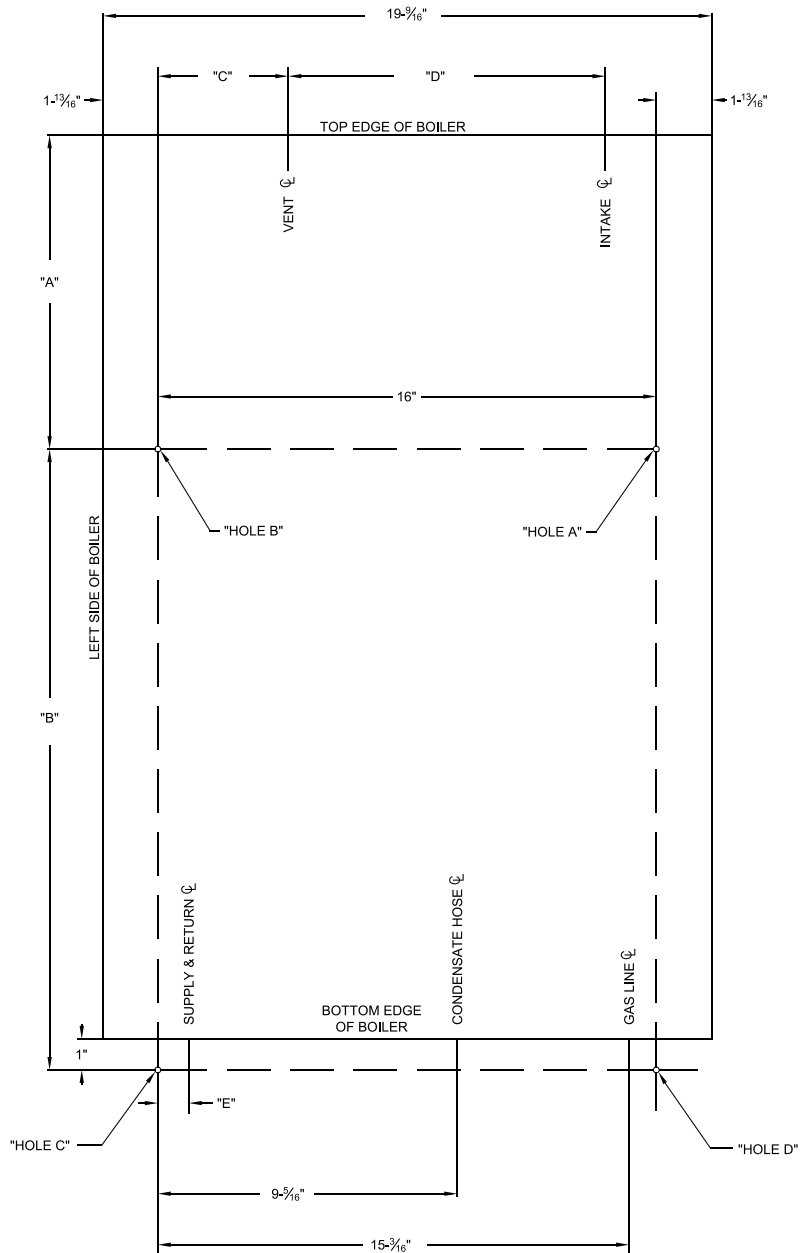

Figure 5.1 Wall Layout / Mounting Hole Location
5. Once a suitable location has been selected for the boiler, and any needed modifications have been made to the wall, use Figure 5.1 to locate holes "A" and "B". Make sure that the horizontal centerline of these holes is level. Holes "C" and "D" may also be drilled at this time or after the boiler is hung on the wall. If the  $\frac{5}{16}$ " x 2" lag screws are used, drill  $\frac{3}{16}$ " pilot holes.